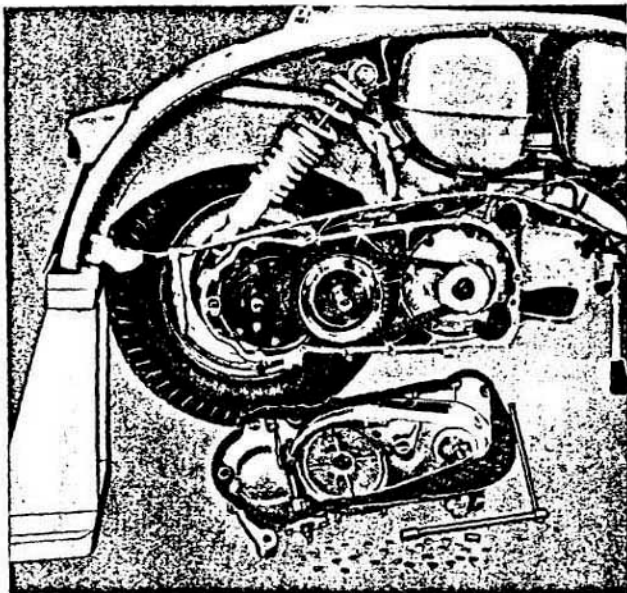

Fig. 5
- » 12 - To remove Crankcase cover, unscrew the 13 nuts which fix this to the crankcase (10mm spanner), See Fig. 5.